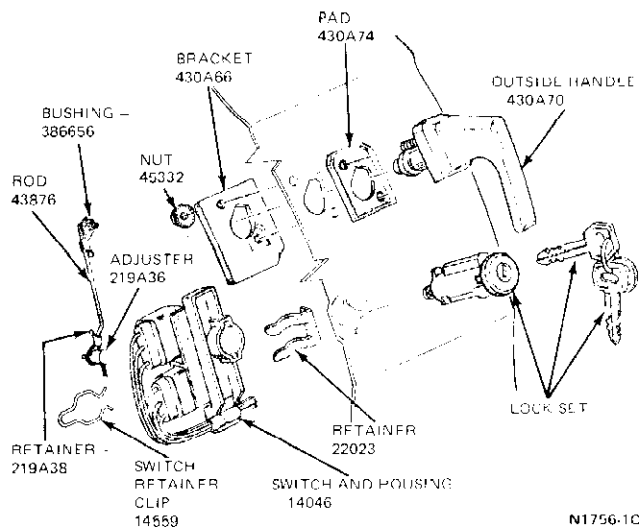

FIG. 4 Tailgate Window Switch—Ford and Mercury
2. Disconnect the tailgate latch rod from the switch (Fig. 4).
3. Remove the lock set retainer (Fig. 4).
2. Position the switch to the lock cylinder and install a new retainer and clip (Fig. 4).
3. Remove the lock cylinder clip and the switch retainer from the lock cylinder (Fig. 4).
1. Insert the lock cylinder into the tailgate and switch and housing assembly (Fig. 4).